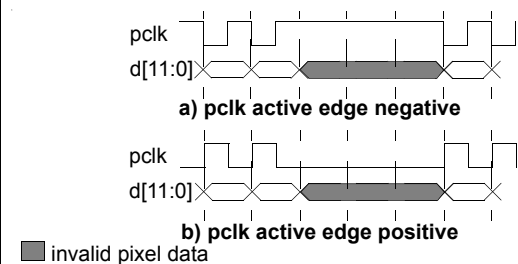

Figure 38. *pclk* in Data Ready Mode
- In data ready mode, the pixel clock output pin (*pclk*) will produce a pulse with a specified level every time valid pixel data appears on the digital video bus  $d[11:0]$  as shown in Figure 38.